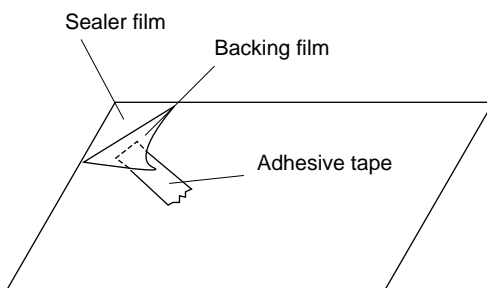

Figure C-9. Sealer film
3. Re-install door panel to door frame by fitting ten (10) tabs of door frame to ten (10) holes of door panel.
4. Put sealer film on door panel. Refer to "Sealer Film" and figure C-9, on how to handle the new film.
5. Catch two (2) pins of door panel on two (2) hole of upper and lower oven hinges.
1. Put the adhesive tape on the backing film of the sealer film as shown in Fig. C-9.